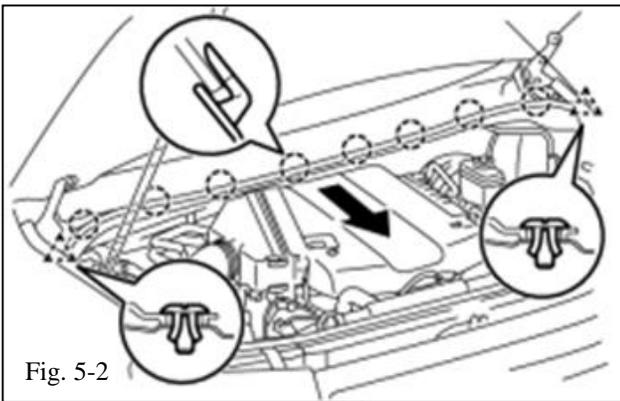

Fig. 5-2
- (c) Remove 2 clips and 8 claws and remove the top ventilator louver sub-assembly (Fig. 5-2).